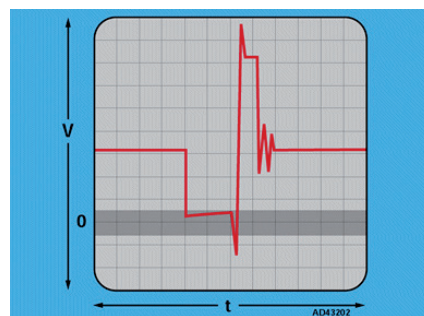

Fig 30 - Ignition coil wave form
- Compare scope trace with wave form reference *Fig 30*.